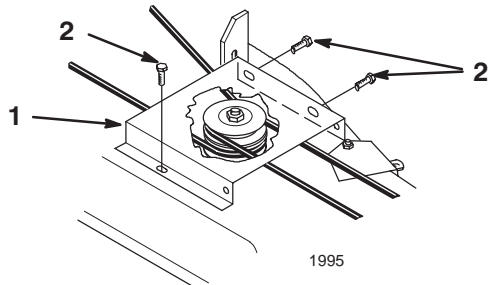

Figure 19
- On 42 in. mowers, mount the belt cover loosely to the outside of the belt cover bracket using 3 flange-head bolts (1/4 x 1/2 in.) (Fig. 19).